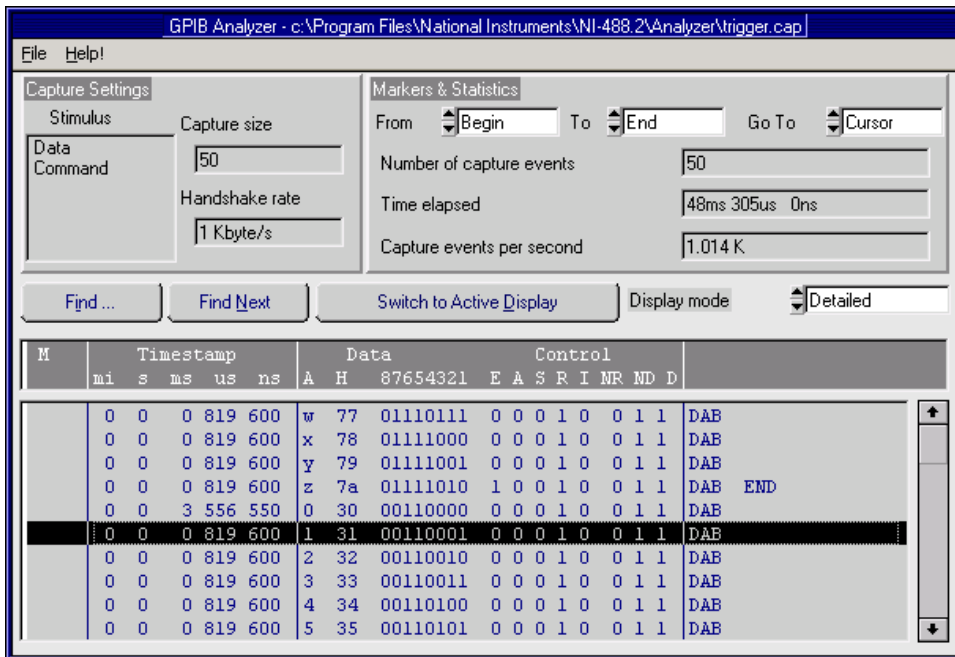

Figure 4-5. Capture Display Window
6. Click **Find** to start the search. The result will be highlighted as shown in Figure 4-5. ASCII 1 appears in the “A” column of the highlighted row.